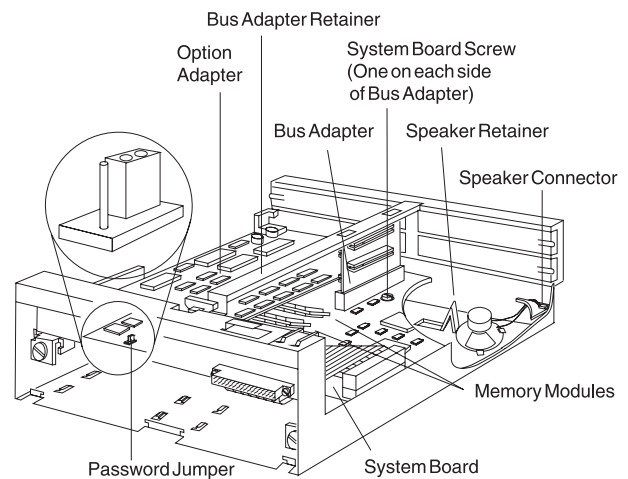

Figure 1-11. Logic Tray Components
- 8 If you are exchanging the system board, the replacement board is **not** supplied with memory installed. Therefore, you must remove the memory modules from the board being exchanged and install them on the replacement board. See Figure 1-11 on page 1-85 for the memory module locations.